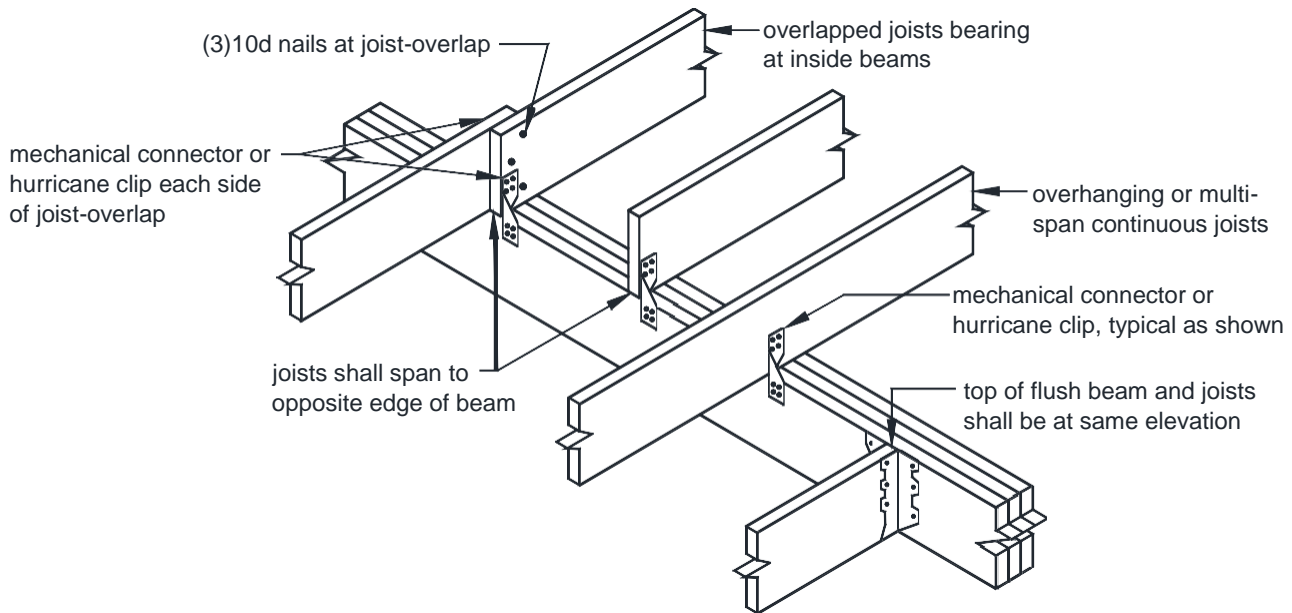

FIGURE 10: JOIST-TO-BEAM CONNECTION
- Each joist shall be attached to the beam in accordance with FIGURE 10.
- As shown in FIGURE 10, multi-span joists are permitted to span continuously over a dropped interior beam with one mechanical connector or overlap with a mechanical connector at each joist.